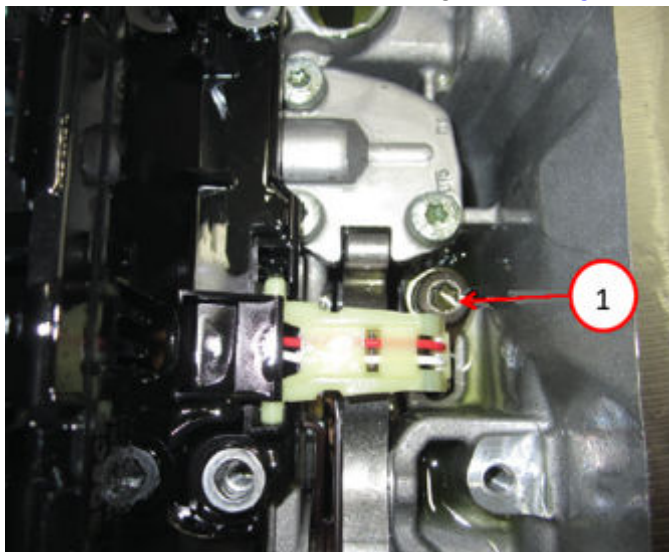

Fig. 47
70. If equipped, install the HIS and bolts Fig. 47.